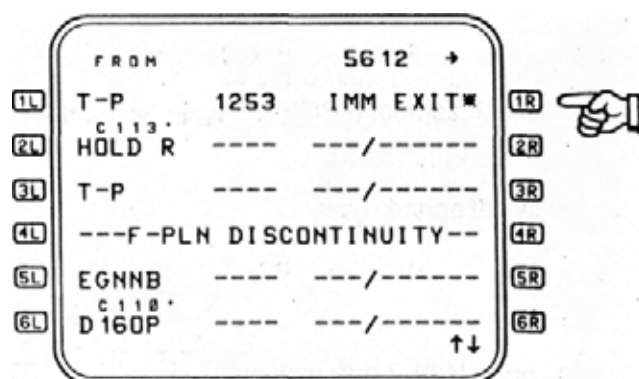

Figure 2-126
In this case a 20 mile DME leg is specified (2), and the turns are to the left (3) rather than the standard right pattern. When this type hold is inserted into the F-PLN, PPOS becomes TURNING POINT (T-P). See Figure 2-126.
As mentioned in the previous section, the F-PLN page is displayed when the *INSERT prompt is pressed, with the HOLD inserted. In the case of an HM hold, the holding fix is followed by a F-PLN DISCONTINUITY (Figure 2-126). The display remains unchanged as the aircraft flies to the holding fix. However, the moment the fix is sequenced, as the holding entry maneuver begins, the prompt IMM EXIT* appears in data line 1R.